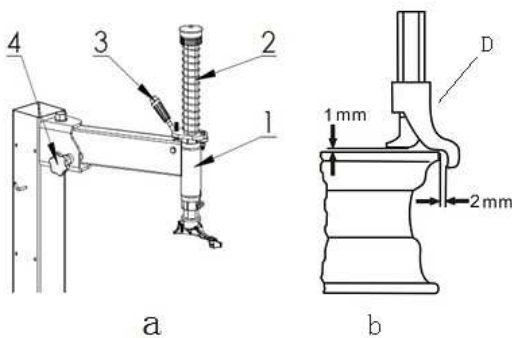

Fig.16
- Pull back swing arm and adjust swing arm 1, (as fig.16-a) and hex column (2) , make mounting head against rim, adjust handle 4 ,lock swing arm ,lock hex column by handle 3.Make sure mounting head keep a distance of 1-2mm from outer edge of rim to avoid mounting head scratch rim (as fig.16-b) .